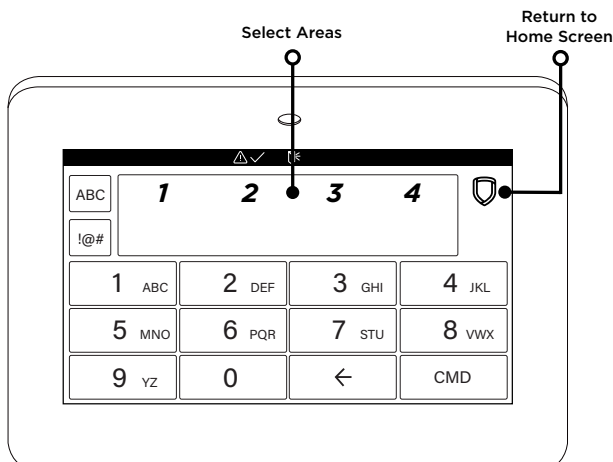

Figure 7: Number Pad
3. Identify the **Select Area** for the character and press that select area on the keypad. Press that select area again for the lowercase letter. See Figure 7.